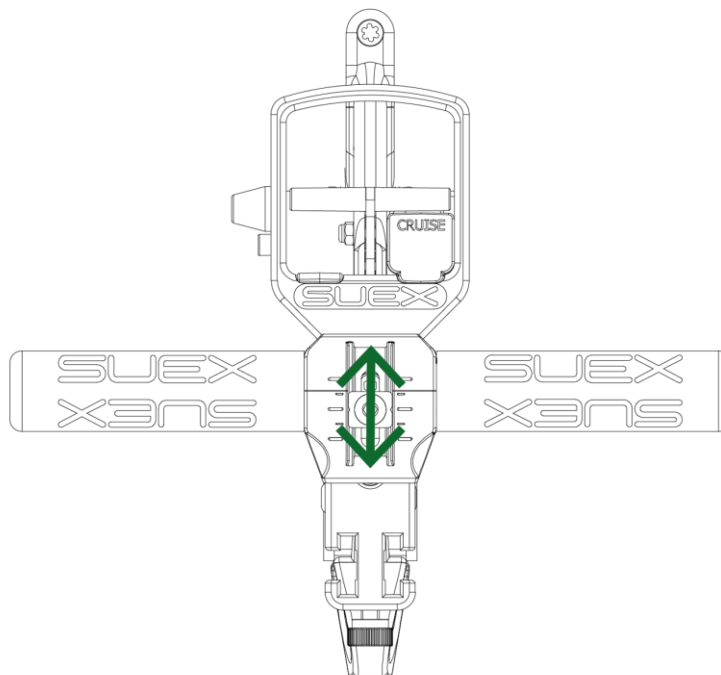

Fig 8 - Adjustment of handle position
- slide it downward to increase the distance from the trigger (for larger hand sizes) **Fig 8 - on p. 10**